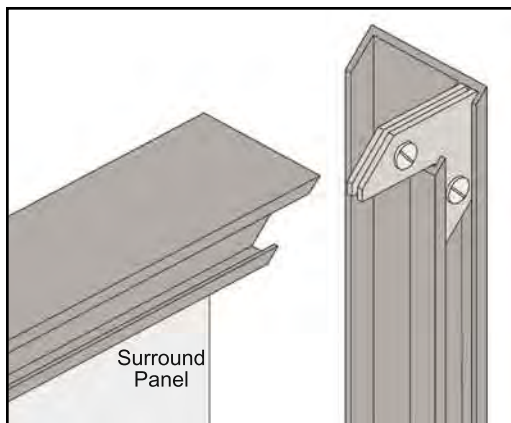
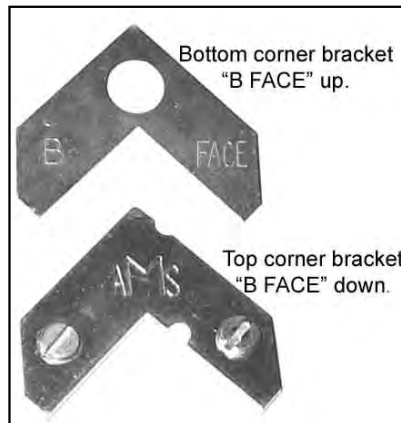

Figure 39: Corner brackets for trim.
Figure 40: Two pieces of corner bracket.
3. Attach one side trim to the top trim, using a corner bracket (see Figure 39) to secure pieces together. There are two (2) main pieces to each corner bracket (see Figure 40). When installing the corner pieces into the trim, the "B FACE" sides must face each other and the screw heads are to face out. With the bracket in place and the top and a side trim snug together, use a flat head screwdriver to turn the two (2) screws in the bracket to tighten it into the trim.
4. Slide the two (2) attached trim pieces onto the surround panel.